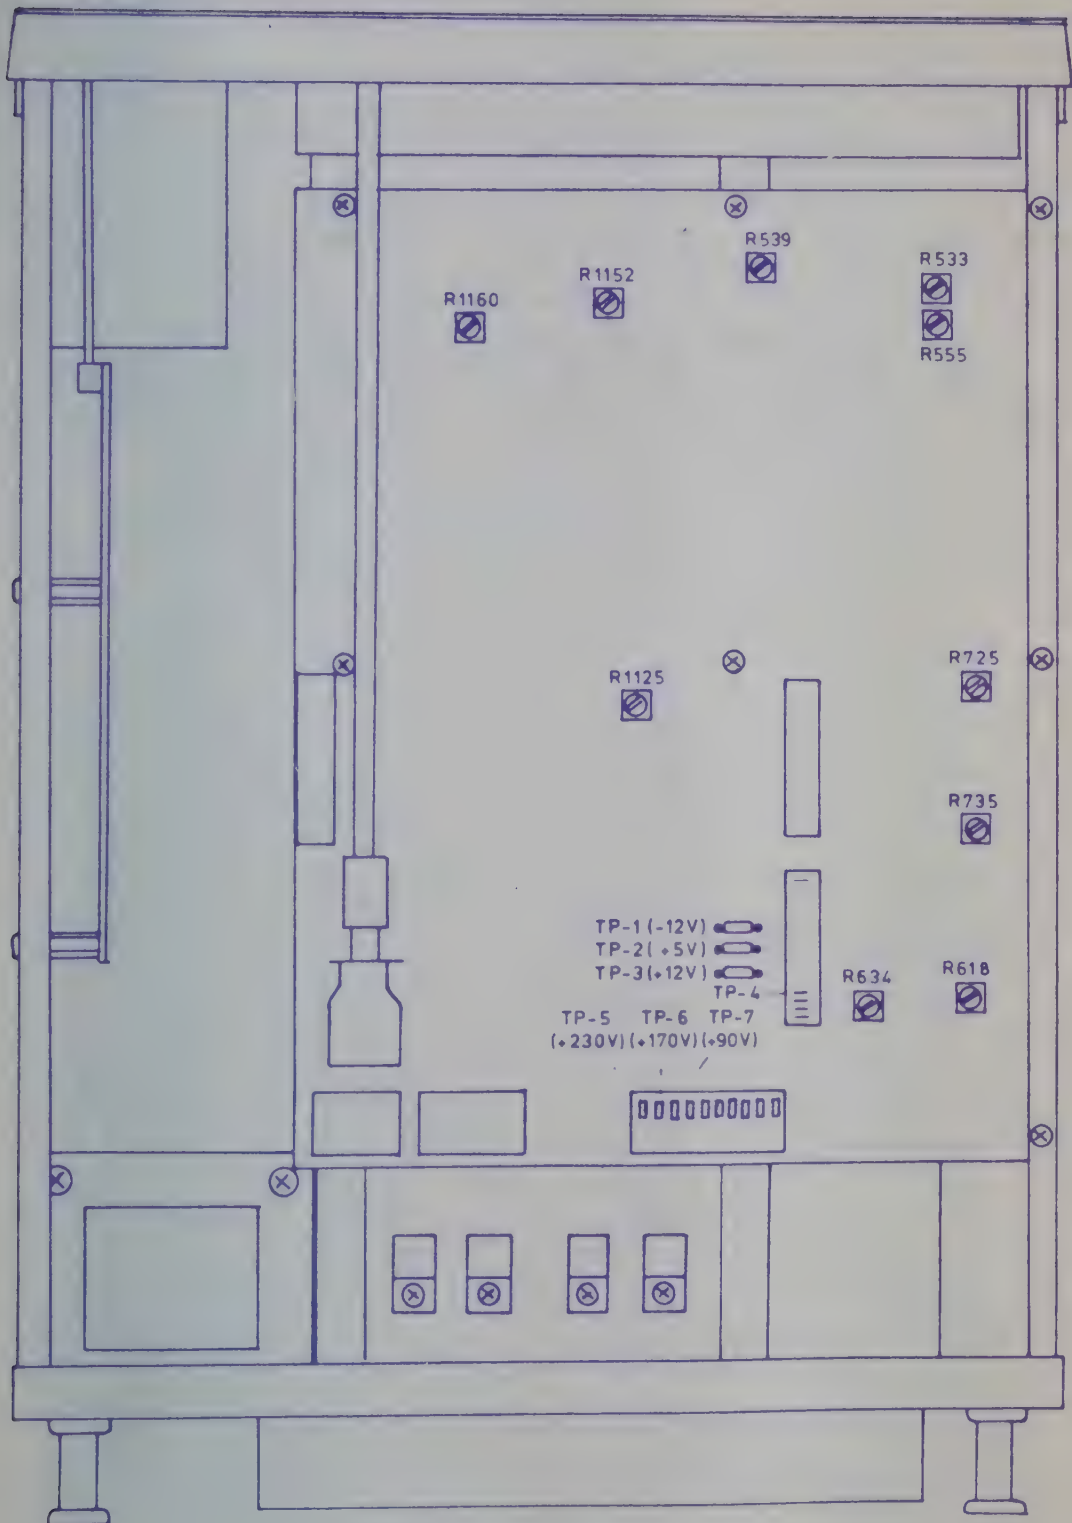

Figure 32
- (1) Apply a sinusoidal wave of approximately 1 kHz to the vertical input terminal and display a waveform with an amplitude of approximately 8 DIV on the screen.
- (2) Turn the LEVEL knob (33) to the extremely clockwise position (LOCK position).
- (3) Turning ON (☐) and OFF (☒) the SLOPE push button, so adjust R539 and R555 (Figure 32) that the start point of the waveform becomes the center of the displayed waveform amplitude.
- (4) Next, apply a sinusoidal wave of approximately 35 MHz to the vertical input terminal and so adjust the signal generator output that the signal is displayed with an amplitude of 0.5 DIV on the screen.
- (5) Under the above state, finely re-adjust R539 and R555 that the triggering does not fail when the SLOPE pushbutton is turned ON (☐) and OFF (☒).
This adjustment is for making optimum the TRIG LOCK sensitivity of the trigger circuit of the B sweep. Adjust R618 and R634 (Figure 32) in a similar manner as in the case of "Adjustment of TRIG LOCK."
- (1) Apply a sinusoidal wave of approximately 1 kHz to the vertical input terminal and display the signal waveform with an amplitude of approximately 8 DIV on the screen.
- (2) So set the LEVEL knob that its white dot is positioned at the noon position. So adjust R533 (Figure 32) that the trigger point (trace start point) is positioned at the center of the displayed waveform amplitude.
This adjustment is for setting the lengths of the A and B sweeps at 11 DIV. Set the TIME/DIV switches (45) and (46) at 1 mS and apply a time marker signal of 1 msec or a signal of repetition frequency 1 kHz, and so adjust the A SWEEP LENGTH (Figure 32, R725) and B SWEEP LENGTH (Figure 32, R735) that the sweep lengths become 11 DIV.
(1) Connect the CALIB output (28) or (29) to a frequency counter.
(2) So adjust the CALIB FREQ (Figure 32, R1152) that the frequency counter reads 1 kHz.
(1) Set at 200 mVp-p the signal of the generator used for "calibration of sensitivity" of Section 6.5. Apply this signal to the CH1 input terminal.
(2) Display the signal on the screen with an amplitude of 8 DIV by adjusting the VOLTS/DIV switch (5) and VARIABLE knob (6).
(3) Apply the 200 mV CALIB output (28) to the CH1 input terminal. So adjust the CAL OUT (Figure 32, R1160) that the signal is displayed with an amplitude of 8 DIV on the screen in the same manner as step (2) above.